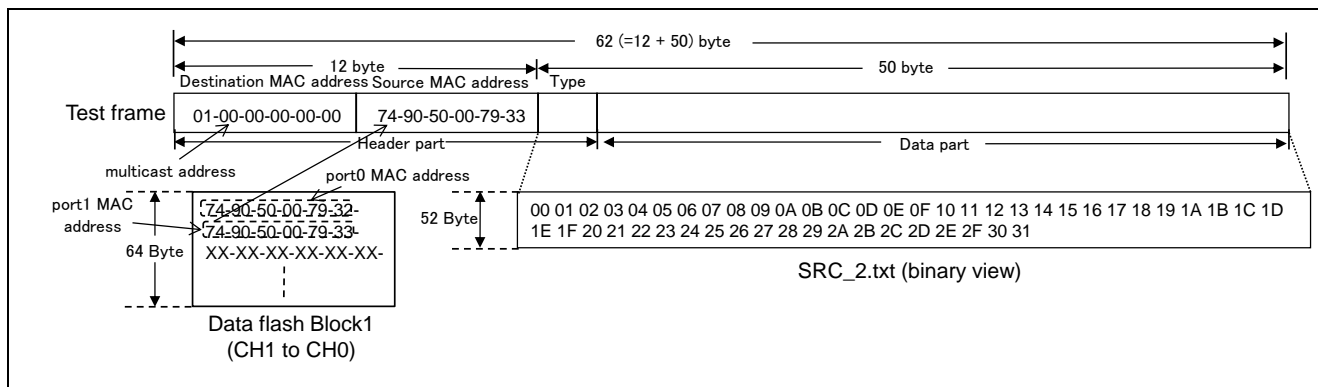

Figure 3.3 Frame format
Figure 3.3 explains the test frame format in relation to the Mac addresses written in the data flash, the test data refer to the SRC_2.txt when the direction of frame transfer is from CH1 to CH0, and the multicast address selected by index 0 (MUL_IDX = 0). The port0 MAC address of the RSK board2 is written beginning 6 byte in the Block1 whose address is "0x0010_0040 – 0x0010_0045" and the port1 MAC address of the RSK board2 is written next 6 byte in the Block1 whose address is "0x0010_0046 – 0x0010_004B".
(1) Set multicast frame filter function of the CH1.
(2) Read the test data transferred as the test frame from the USB memory via USB Host.
(3) Load MAC addresses from the data flash.
(4) Create the test frame showed by the Figure 3.3.
(5) Transmit the test frame from port1.
(6) Cancel or receive the test frame depend on the FFLTR setting.
(7) If the test frame received, relay and transmit it to CH0.
(8) Receive the relayed frame.
(9) Measure the frame transfer interval using the MTU3.
(10) Write the reception data transferred as the frame to the USB memory.
(11) Repeat the specified times of the USB read, frame transfer with interval measurement, and USB write. Thereafter, write the result of the frame transfer intervals to the USB memory.
(12) The MAC addresses in the data flash are erased if "FORCE_ERASE_PRM" option is defined.